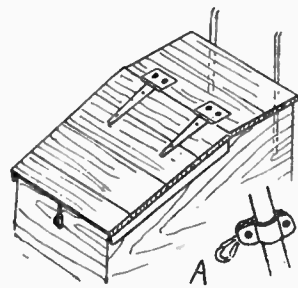

Fig. 3—Details of top and fixing
The remainder of the top covering forms the lid. Join the boards together with side strips of ¾in. by 1in. wood, as seen at Fig. 3, and glue and nail the whole securely. Fix the lid to open up with a pair of iron T hinges, as shown, and to the front of the lid fix a hasp to accommodate a padlock fastener.
utilised. The axle will be screwed to the centre bar, underneath the trailer. It should be noted here that the length of the axle may necessitate some suitable amendment, perhaps, in the width of the trailer, but that matter can be easily dealt with. If a pair of old but serviceable mudguards can be picked up, by all means add them to the outfit. For towing, a length of ¾in. round iron rod could be used. This should be doubled at its centre to make a small loop, and be bent and screwed to the fore-end of the trailer, as in the general view of the completed article. A simple form of attachment, to be fitted to the seat pillar of the bicycle, is shown at (A) in Fig. 3. To this is secured a large size dog-hook, which can engage the loop on the towing bar and form a safe connection. Do make sure it is quite safe with no chance of slipping.